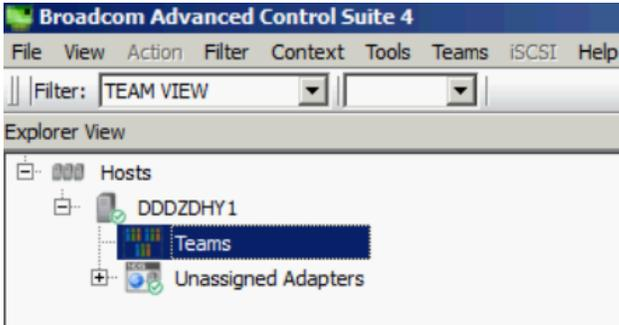

Figure 12 'Team View' in Broadcom Control Suite 4
6. To configure the NIC for LAN traffic, select **TEAM VIEW** from the Filter drop down box (Figure 12).